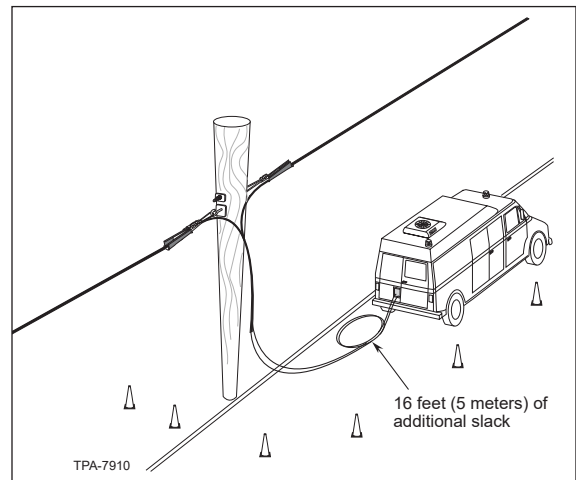

Figure 3 - Aerial PAM
1. Select splice locations during the survey and make plans for closure and cable slack storage. Corning Optical Communications recommends that at splice points, installation crews leave enough cable slack on each cable end to reach the ground and into a splice vehicle, plus 16 feet (5 meters) (Figure 3). This cable slack must be taken into account when ordering cable lengths. Consider the accessibility of these splicing locations by splicing vehicles. These locations should not fall in sites where access is inconvenient or hazardous.